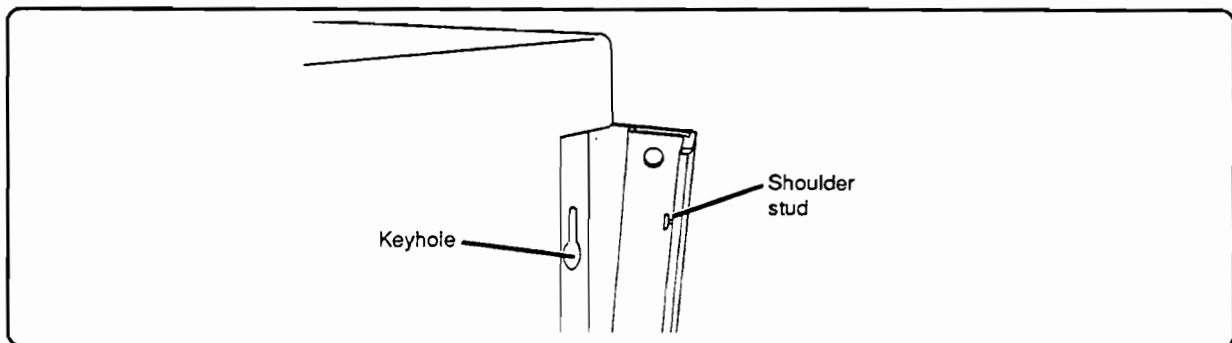

Figure 6-124. Stacker Assembly Removal
6. Standing to the rear of the output tray, grasp the bottom edge of the Stacker assembly and lift gently upward, easing the assembly off the shoulder stud on the rear. (Figure 6-124).